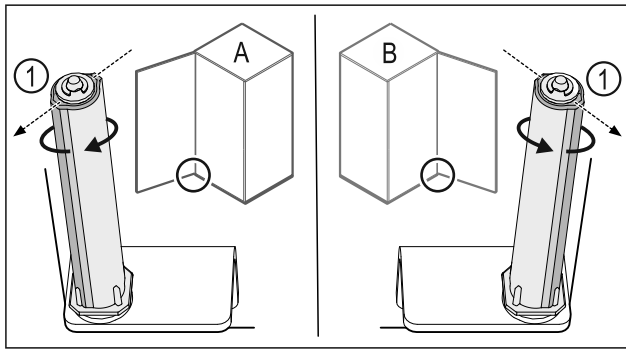

Fig. 40 Left-hinged (A) / Right-hinged (B)
- Turn the closing system against the resistance until the bar of the closing system Fig. 40 (1) points outwards.